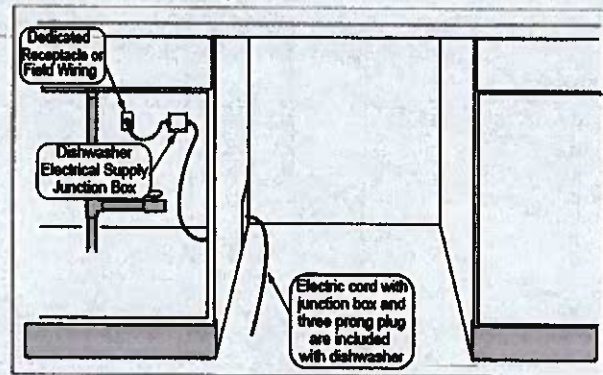

Figure 6
The dishwasher electrical supply junction box (P) and dedicated receptacle must be mounted in an accessible cabinet adjacent to the dishwasher (do not mount the junction box or receptacle behind the dishwasher). You will need a 43/4" x 23/8" (120 x 90 mm) opening through the cabinet in order to pass the junction box through (see Figure 6). If the opening is made through wood, sand it smooth. If the opening is made through metal, use the included protective grommet (I) or other approved method to protect wiring from damage. Use the four screws included (or appropriate fastener) in the parts bag to securely mount the junction box so that it can be easily accessed (see Figure 6). The electrical supply can be connected in two ways: